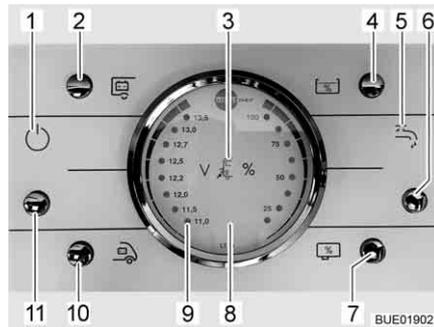

Fig. 141 Panel LT 96
The button (Fig. 141,11) switches the panel and the 12 V power supply to the living area on and off.
- Press the button (Fig. 141,11): The 12 V living area power supply is switched on. The indicator lamp (Fig. 141,1) lights up.
- Press the button (Fig. 141,11): The 12 V living area power supply is switched off. The indicator lamp (Fig. 141,1) goes out.
With the V/tank gauge (Fig. 141,8), note the left scale. The gauge automatically lights up as soon as a button is pressed.
- Press the button (Fig. 141,10): The battery voltage of the starter battery is displayed.
- Press the button (Fig. 141,2): The battery voltage of the living area battery is displayed.
The V/tank gauge is for the indication of the quantity of water or waste water. With the V/tank gauge (Fig. 141,8), note the right scale. The gauge automatically lights up as soon as a button is pressed.
- Press the button (Fig. 141,4): The volume of water is displayed.
- Press the button (Fig. 141,7): The volume of waste water is displayed.
Switching on: ■ Press the button (Fig. 141,6): The water supply is ON. The water pump indicator lamp (Fig. 141,5) lights up.
Switching off: ■ Press the button (Fig. 141,6): The water supply is OFF. The water pump indicator lamp (Fig. 141,5) goes out.
The red "ALARM" warning light (Fig. 141,9) flashes as soon as the voltage of the living area battery falls below 11 V (measured under operation) and there is a risk of a total discharge.
The 12 V indicator lamp (Fig. 141,1) lights up when the 12 V main button (Fig. 141,11) is switched on.
The 230 V indicator lamp (Fig. 141,3) illuminates whenever line voltage is available at the transformer/rectifier input.